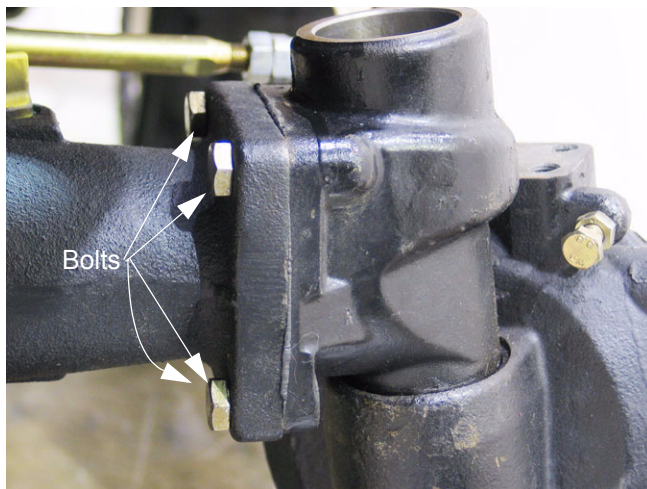

Figure 7.11
- 7.11. To separate the kingpin housing from the axle housing, loosen all four bolts that secure the two together using a 16 mm wrench. See Figure 7.11.